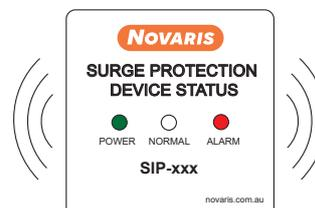

Figure 7: Alarm condition. SPD has fault.
- 4.3 Under fault conditions, or the power is disconnected from the monitored SPD, the ALARM light will illuminate and a warning buzzer sound, figure 7. This state can be simulated by removing the INPUT terminal from the Surge Indicator Panel. Please adhere to the warning stated in part 3.10 of this manual.